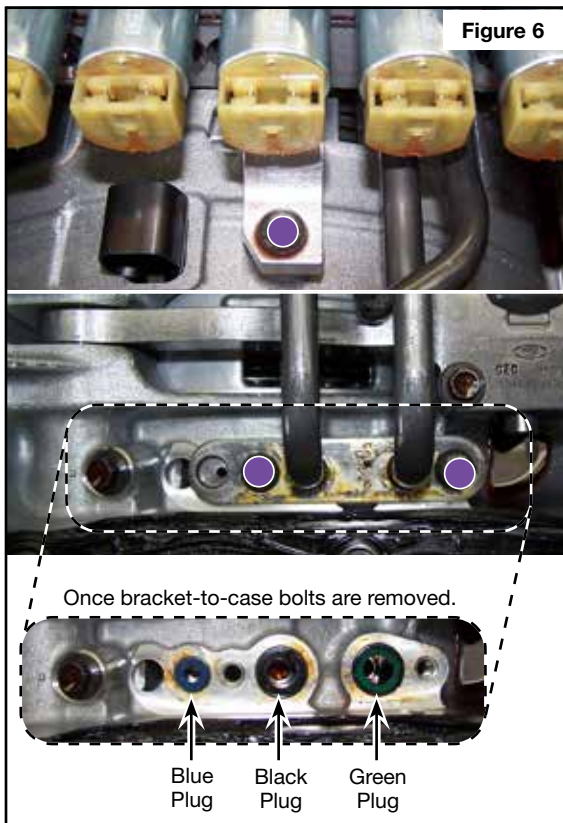

Figure 6
- Remove three tube bracket-to-case bolts (purple) (**Figures 6**).
- Remove tube assemblies from valve body and tube assembly plugs from case (**Figure 6 & 7**).